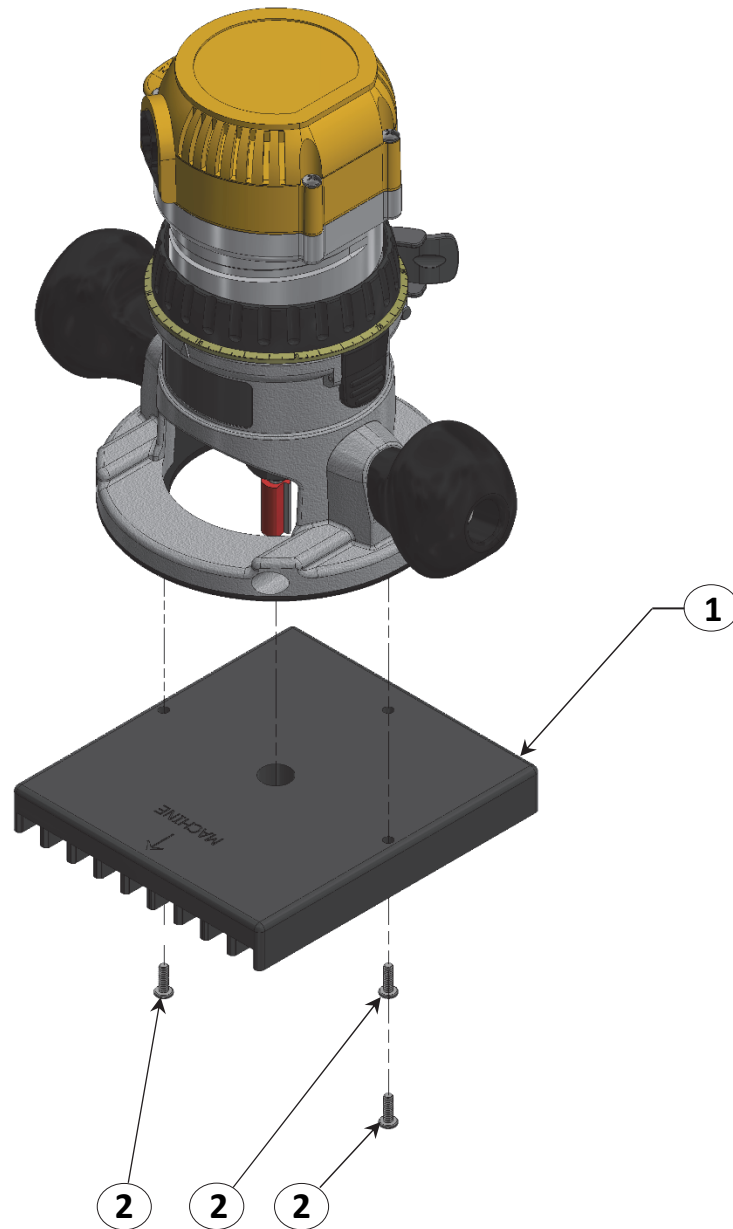

Figure 5.2
- a. Install 3x screws (*Item 2, Figure 5.2*) into router housing using a Phillips head screwdriver.